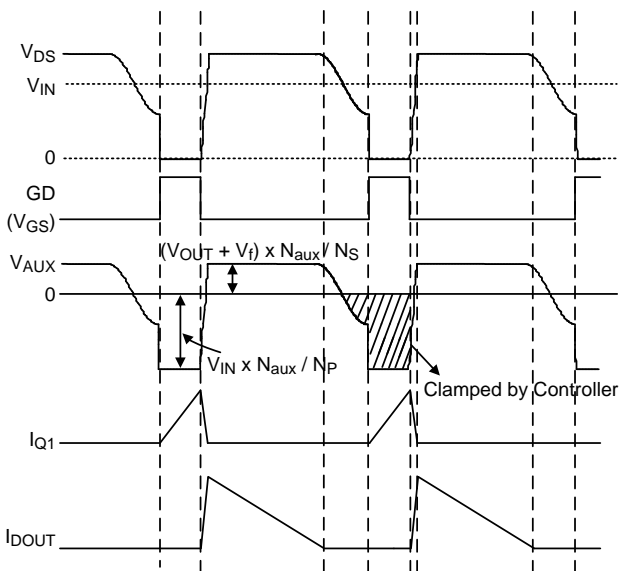

Figure 3. Key Waveforms of a Flyback Converter
RT7306 needs no shunt regulator and opto-coupler at the secondary side to achieve the output current regulation. Figure 3 shows several key waveforms of a conventional flyback converter in Quasi-Resonant (QR) mode, in which  $V_{AUX}$  is the voltage on the auxiliary winding of the transformer.